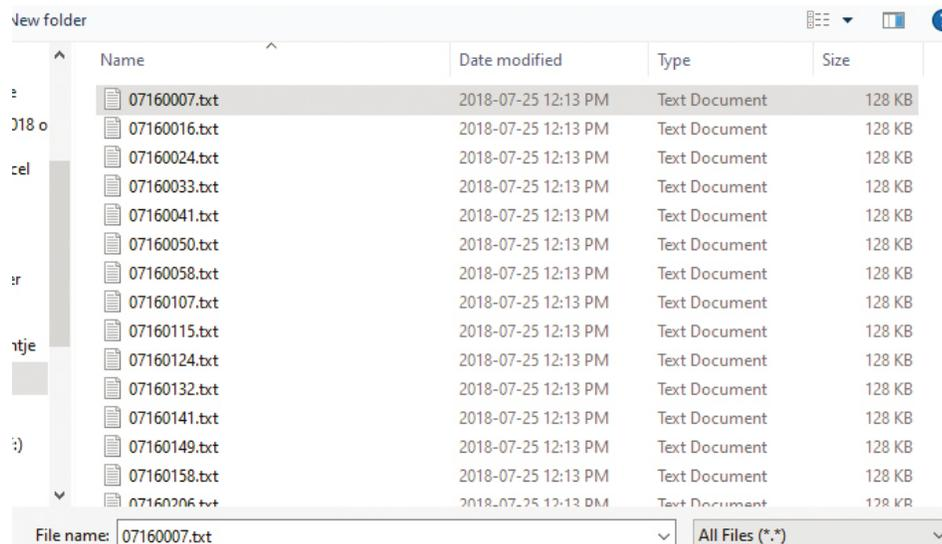

Fig 5.4 Screen Showing ".txt" Files downloaded from SD Card into Computer Directory
- All Text Files (.txt) will be displayed. The screen will look like Fig 5.4.
- Click "Open" Button (*Bottom right corner of Fig 5.4*).